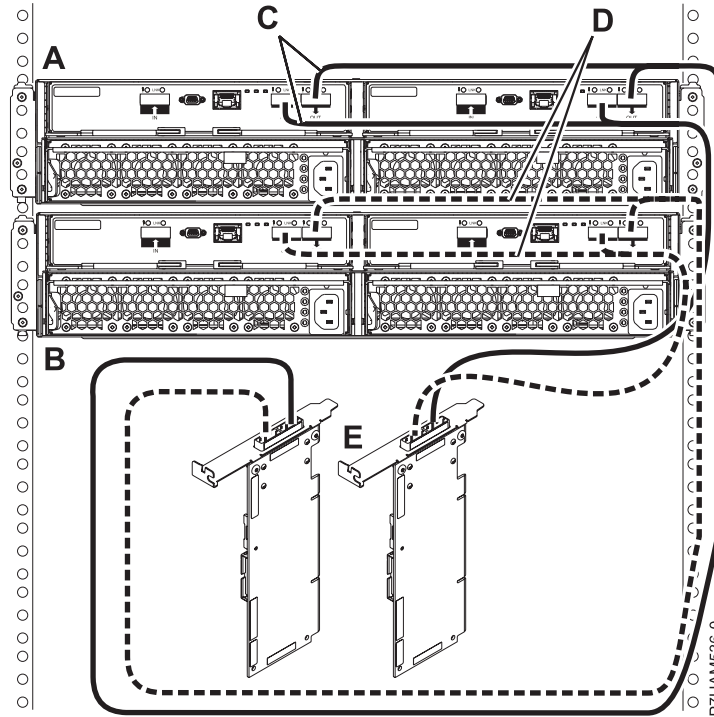

Figure 31. Mode 1 connection of two 58/87 disk drive enclosures by using YO cables to a SAS adapter pair
- i. Perform the mode 1 connection of two 58/87 disk drive enclosures (**A and B**) by using YO cables (**C and D**) to a SAS adapter pair (**E**) as shown in Figure 31 on page 29.